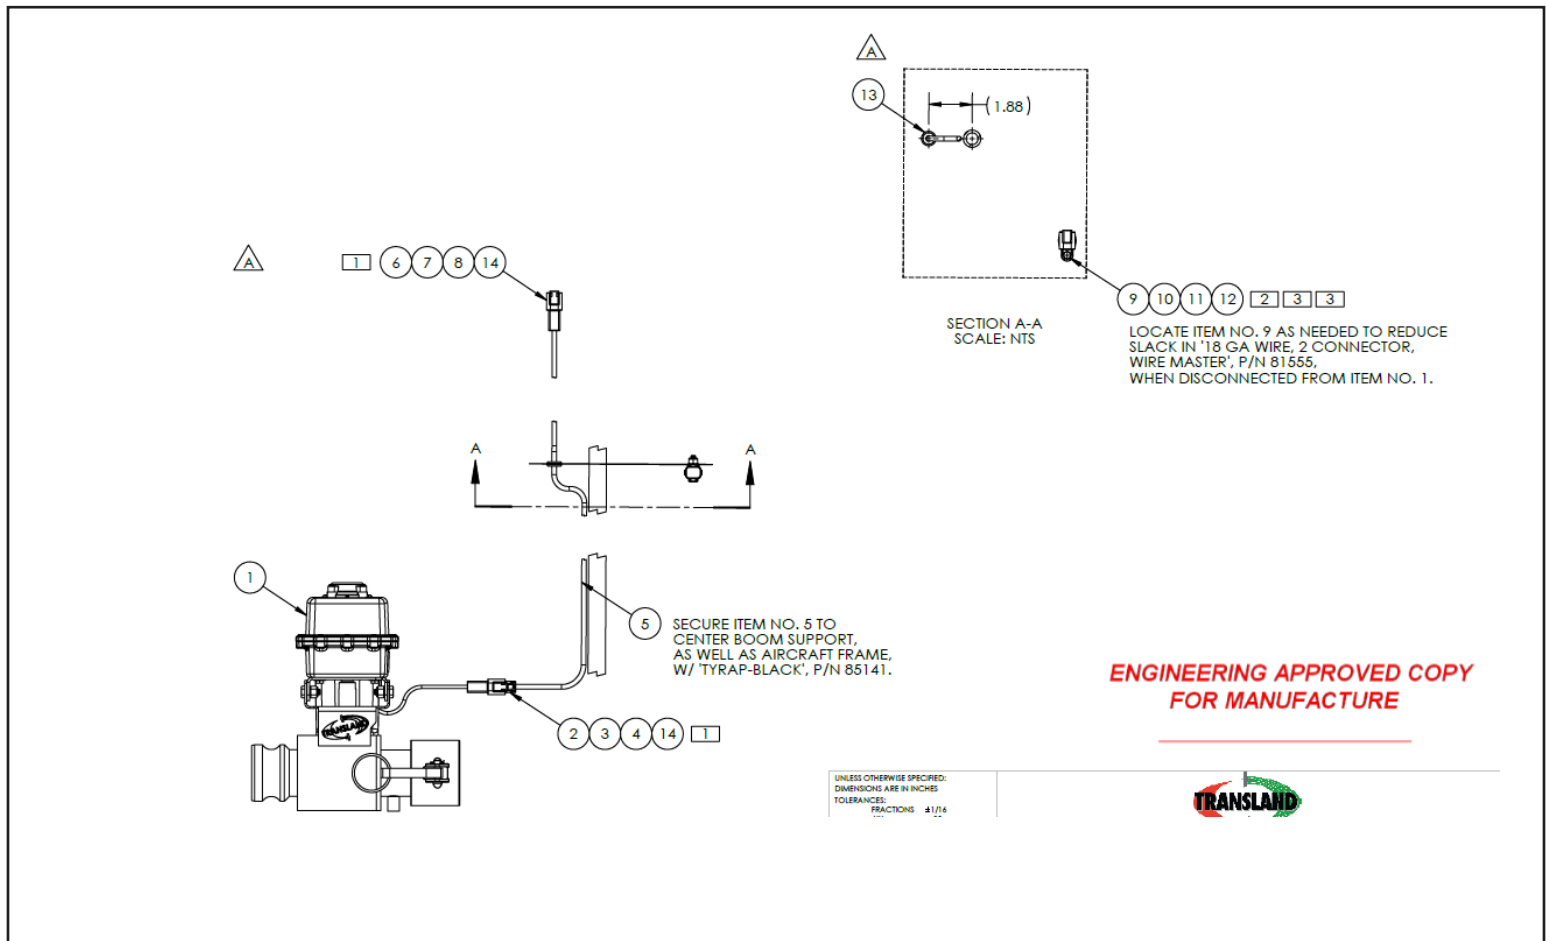

Figure 6-2: Wiring Illustration for Right-Hand Boom Shut-Off from Cockpit to Valve
according to Figure 6-2.
13. Run item 5 wiring to the right-hand boom shut-off valve from the installed control panel.
14. In the aircraft's interior, secure wiring to the aircraft frame using item 15.
15. Along the aircraft's exterior, secure wiring with item 15 onto the nearest center boom support, locating as necessary per Figure 6-2.
21. Once the wiring has been run, select locations for item 9 (per guidelines on Figure 6-2) to reduce slack in the wiring when disconnected from item 1.
23. Drill a hole with a size 9 drill bit into the belly skin and fasten the dust cap with items 10, 11, and 12.